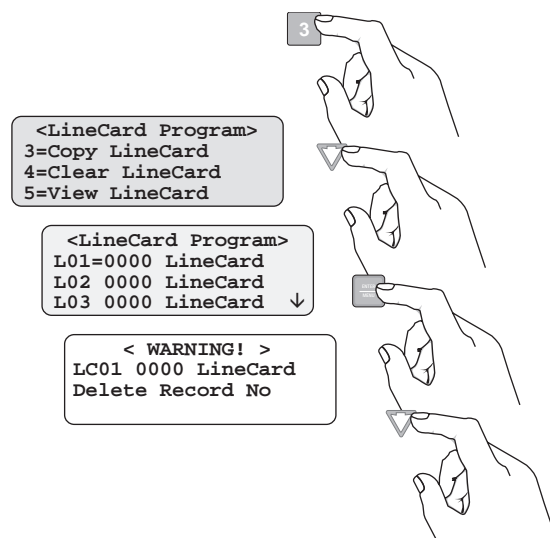

Figure 5-17 Visual Steps to Clear a Line Card From the Receiver
4. When display shows the list of line cards (Figure 5-17), press the **▲** or **▼** button to select the line card to be copied and press **ENTER/MENU**.
3. When display shows the list of line cards (Figure 5-17), press the **▲** or **▼** button until the desired line card to be cleared is highlighted with the equal sign. Press **ENTER/MENU**
3. When display shows the list of line cards (Figure 5-17), press the **▼** button to scroll through the list of line cards.